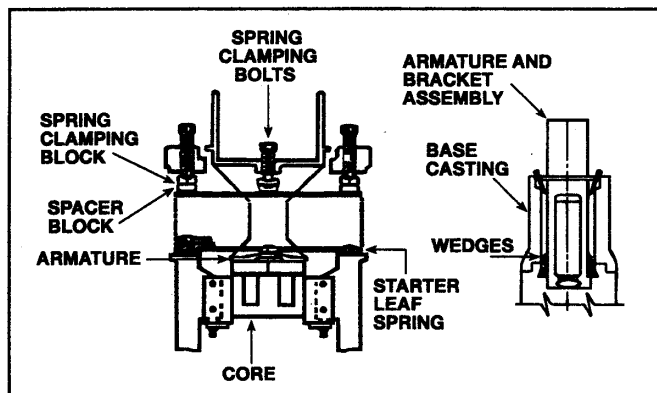

FIGURE 9: SPRING REPLACEMENT
NOTE: When replacing the springs, refer to Figure 9 and the Parts Diagram for help in locating the specific parts. When a spring needs replaced, Syntron Material Handling strongly recommends that the entire spring rack be replaced.
1. Remove side covers (Z) and back cover (Y). Unclamp the diaphragm (K) to gain access to install hardwood edges.
2. Hold armature bracket in alignment with base casting by driving hardwood edges between the armature bracket (J) and base casting (X). This will ensure correct alignment of the replacement springs on the spring alignment bar (S).
3. Loosen the spring clamping bolts (Q) enough to permit removal of the clamping blocks (R). Document spring quantities and spacer block positions as installed in the original unit.
5. Install new springs one at a time, starting with a single spacer spring (with the spacers toward the magnet). The springs will have an off-color stripe at one end; all springs should be installed with this stripe on the same side, and this is the side that should be aligned to the alignment bar. Continue to install the remaining springs in this manner. If the arrangement is a split-spring stack, place a double spring spacer before the spacer block and as the last spring before installing the clamping blocks. (Refer to Figure 9)
6. With all springs installed and resting on the alignment bars (S), check alignment of the armature bracket (J) and make certain all colored ends align on one side. The armature bracket should not be twisted within the base casting. The core and armature pole faces should be parallel to each other.
7. Replace the center clamp block (R) and hand tighten the center spring clamping bolt (Q).
8. Replace the end clamp blocks (R) and tighten the end clamp bolts enough to hold the spring stack in position.
9. Torque the center spring clamping bolt (Q) to ½ chart value. (Refer to Table 2, Torque Specifications)
10. Torque the end spring clamping bolts (Q) alternately to equalize the pressure across the springs to ½ the chart value. (Refer to Table 2, Torque Specifications)
12. Remove the wooden wedges and replace the diaphragm (K).
NOTE: When replacing the springs, refer to Figure 9 and the Parts Diagram for help in locating specific parts. When a spring needs replaced, Syntron Material Handling strongly recommends that the entire spring stack be replaced.